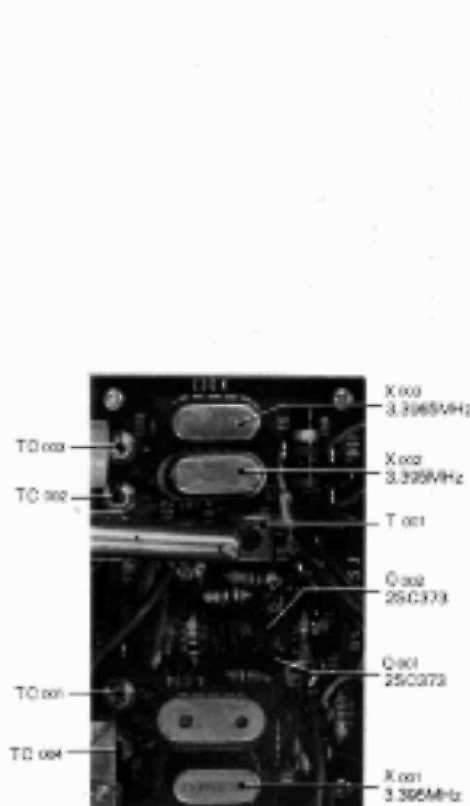

Fig. 21 Carrier Unit
(1) Carrier oscillator (UC1405J) Refer to Fig. 21.